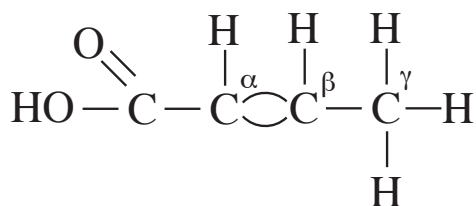

Fig. 12 An unsaturated fatty acid.
C. Make two more butyric acid models, but this time use two long tubes for the bonds between the α and β carbons, and only place one hydrogen atom on each of these two carbons. Attach the unoccupied pegs of the two carbons using a long tube. You have now made a double bond between the two carbons, and the molecule is unsaturated. See Fig. 12.